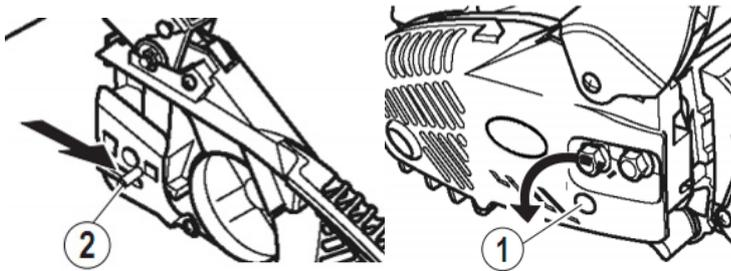

Fig.7
4) Turn the chain tension adjustment screw anticlockwise (to unscrew it) (fig.7 item 1) to push back the chain tensioner tooth (fig.7 item 2).